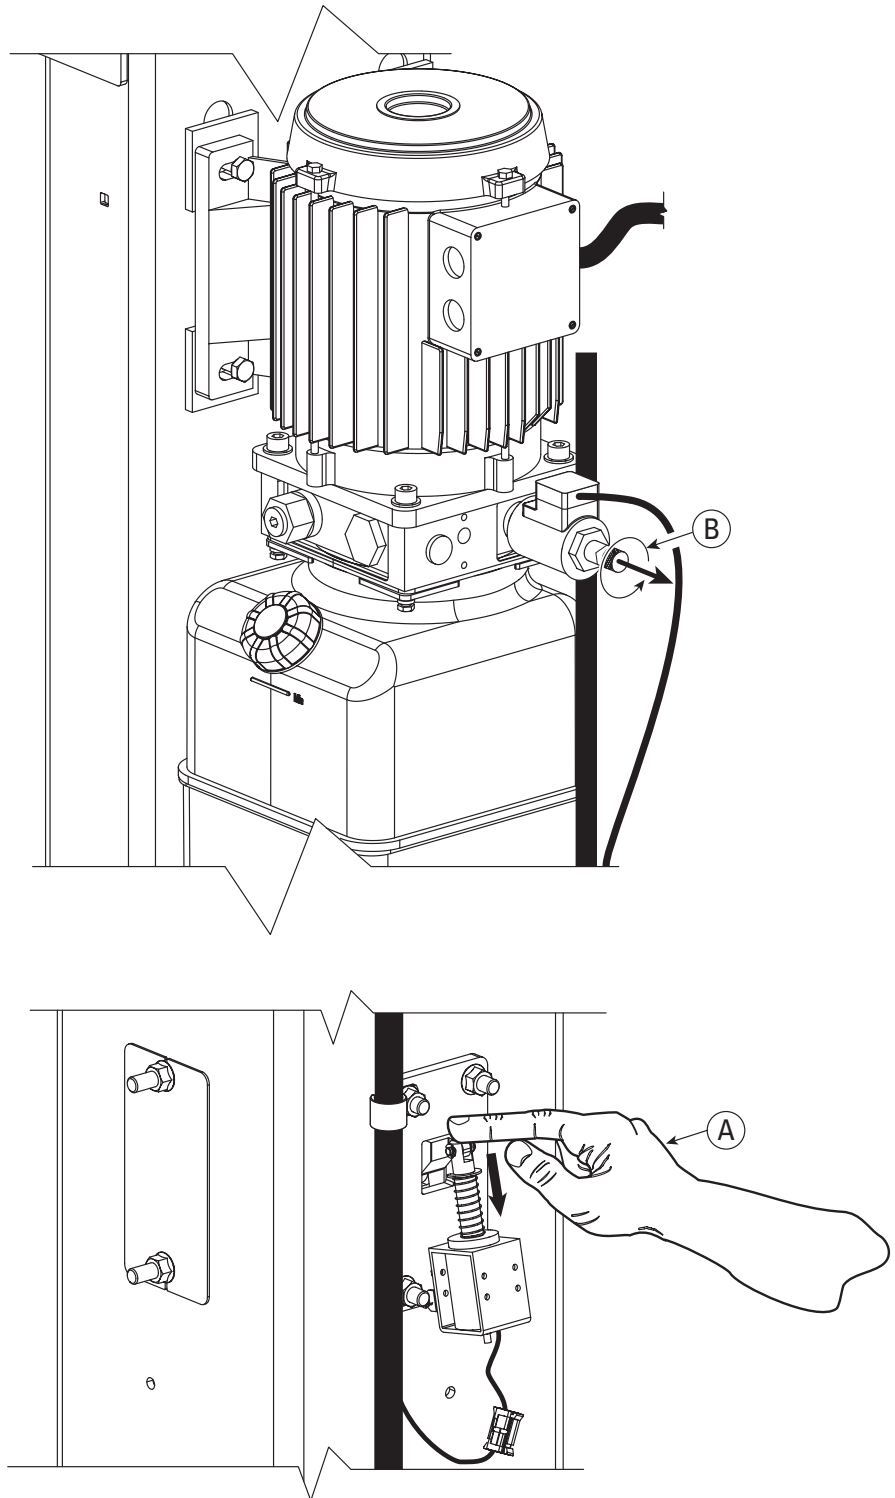

Fig. 7
- 3.) Remove master control cover and slave cover. Push down on the latch where it connects to the solenoid (A), Fig. 7. If you can't push it down with your fingers then you don't have the latch off of the lock. Repeat step #2 until lock is disengaged.
- 8.) Remove cap from lowering valve and twist and pull to lower lift (B), Fig. 7. The lift will lower at a slow speed.